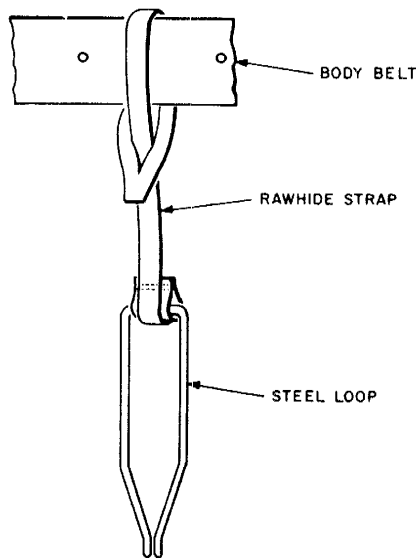

Fig. 1 — B Handline Carrier
- 2.05 When it is necessary to carry a handline up a pole or ladder, secure one end of the rope to a B Handline Carrier (Fig. 1) attached to a body belt. The steel loop of the B Handline Carrier is designed to release the handline if it is placed under tension while the employee is climbing a pole or ladder. If no B Handline Carrier is available, double the end of the handline back on itself for a distance of approximately 1 foot and place this loop under the side or back of the body belt so that it will be readily released if placed under tension.